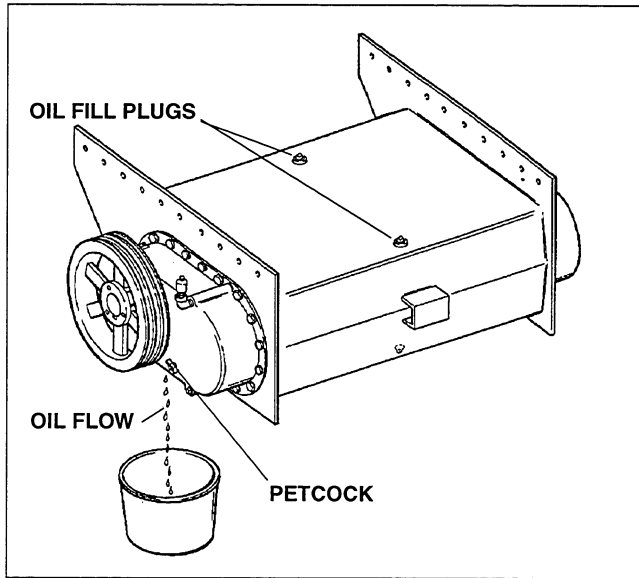

Figure 4-3. Checking Oil Level
2. Open petcocks (one on each side) and check for oil flow. If oil flow is present, close the petcocks immediately. Oil level is OK if oil flows from **both** petcocks. See Figure 4-3.